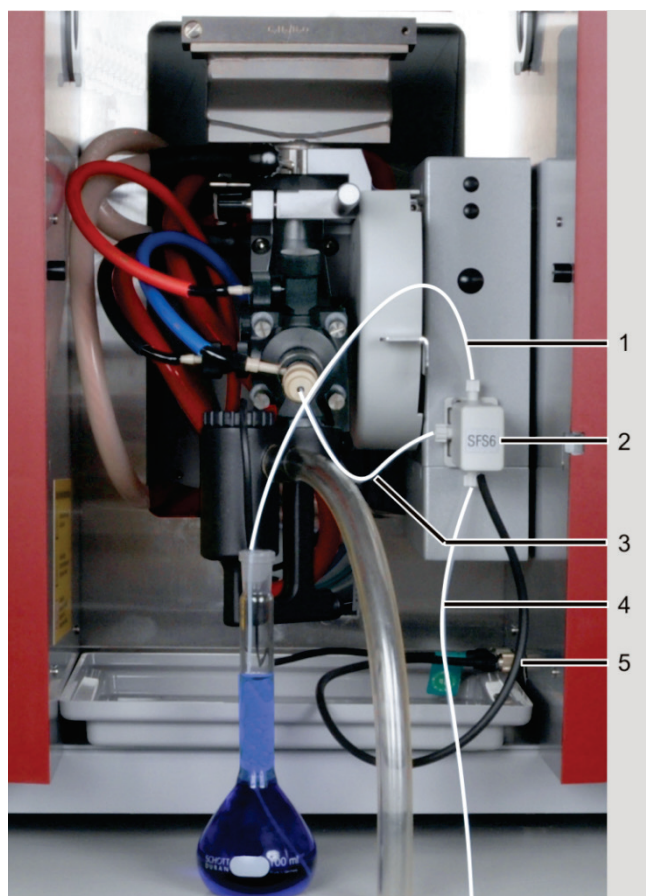

Fig. 54 SFS 6 for manual sample introduction, installed
- Medium length tube into the upper connection – to the sample (item 1 in Fig. 54)
- Short tube into the lateral connection – to the nebulizer cannula (3)
- Long tube into the bottom connection – to the washing liquid (4)
3. Insert the control cable (item 5 in Fig. 54) into the central connector on the right side of the sample chamber wall.
4. Fit the short tube (3) to the nebulizer cannula.
5. Dip the long tube (4) into the storage bottle with the washing solution.
6. Dip the medium-length tube (1) into the sample cup or connect it with the aspiration cannula of the autosampler.